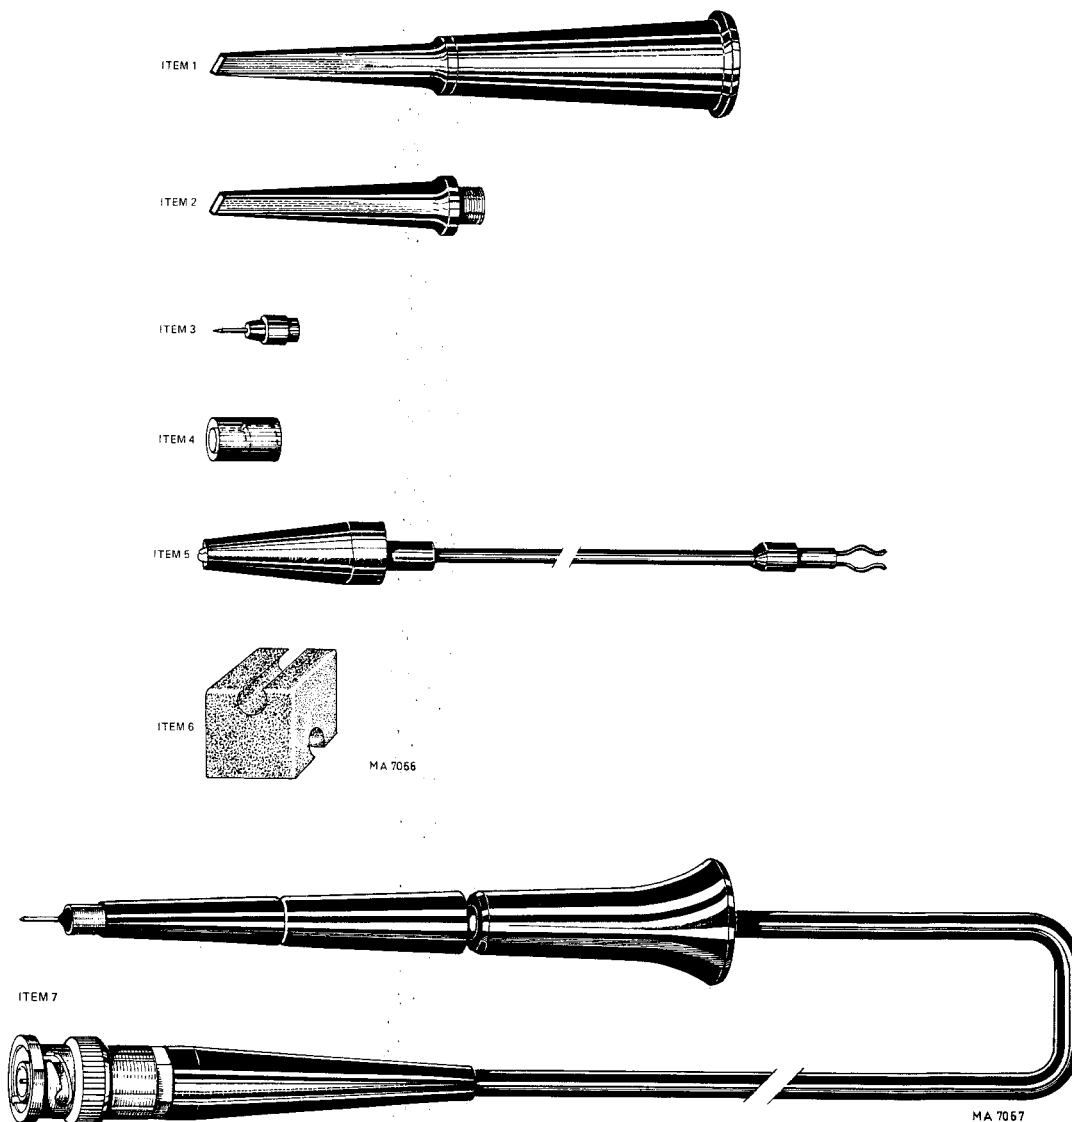

Fig. 22. Probe set PM 9335
3.7.7. 1:1 Probe set PM 9335 (Fig. 22)
| 1 test hook | Fig. 22, item 1 |
| 2 spare test hook sleeves | Fig. 22, item 2 |
| 2 spare probe tips | Fig. 22, item 3 |
| 1 protective cap | Fig. 22, item 4 |
| 1 earthing lead | Fig. 22, item 5 |
| 1 probe holder | Fig. 22, item 6 |
| 1 probe assembly | Fig. 22, item 7 |